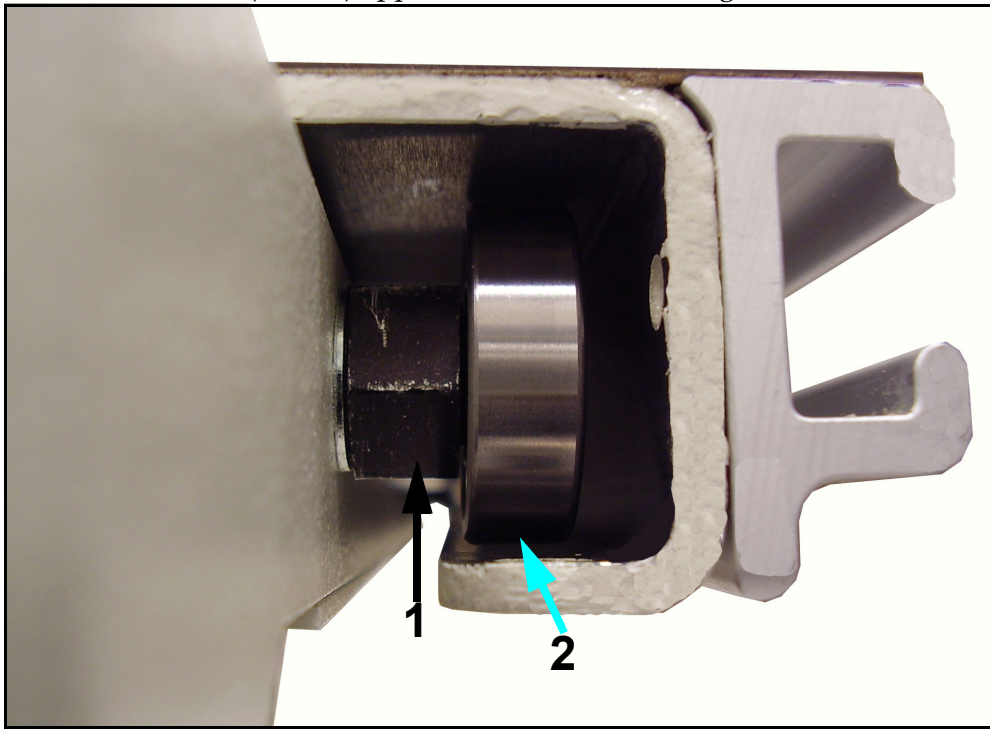

Figure 2-36. Eccentric Adjustment
- 59** Adjust the eccentric nut (1 in Figure 2-36) so that a gap (2) of about 1/32" (0.8mm) appears between the bearing and the table frame.